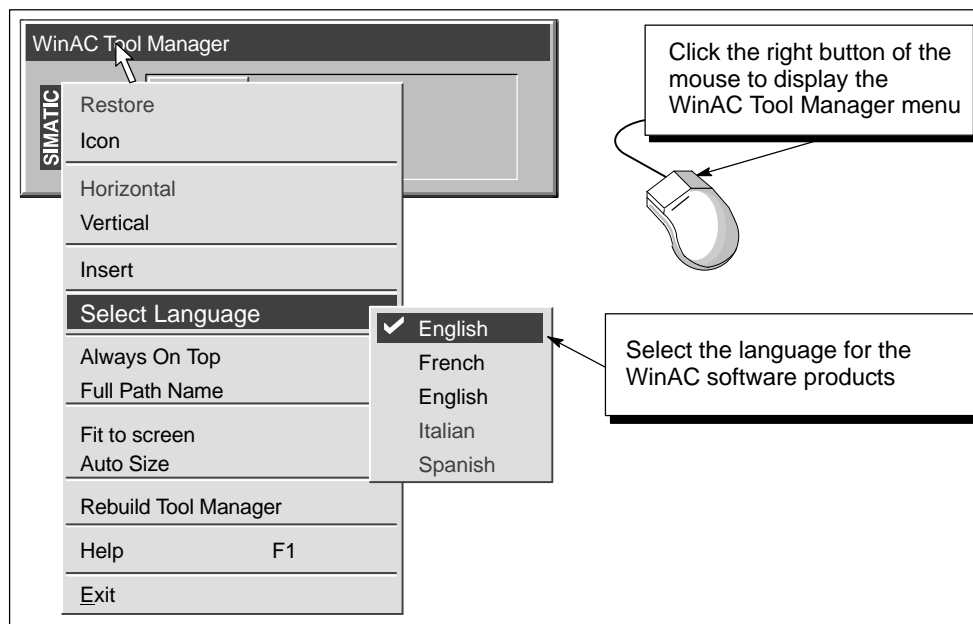

Figure 4-3 Changing the Language for WinAC
2. Open the menu in WinAC Tool Manager by right-clicking (refer to Figure 4-3).
3. Choose the **Select Language** menu option to open the menu in which you can select the language for WinAC (refer to Figure 4-3).